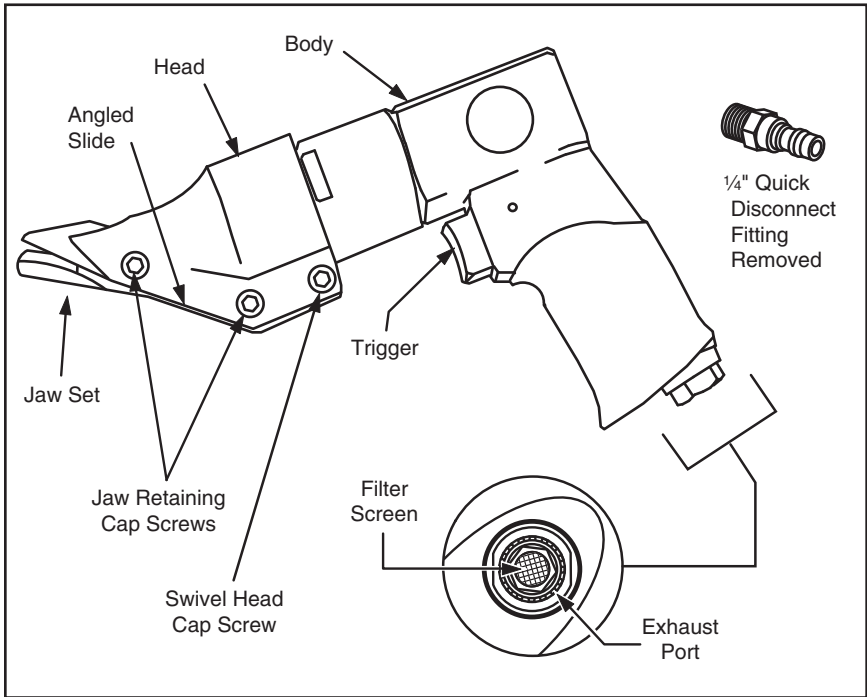

Figure 1. Components and controls.
- If so, loosen the swivel head cap screw (see **Figure 1**, on **Page 5**), rotate the head to the required angle, and retighten the cap screw.
7. Pull the trigger, and in a controlled manner, push the shear into the workpiece to begin cutting. As the cut progresses, keep the angled slide (see **Figure 1**, on **Page 5**) flat against the surface of the sheet metal, so the jaws and sheet metal do not bind.
Manual Lubrication: Every two hours of use, place a few drops of air tool oil in the air inlet fitting and at all pivot points. Do not use motor oil as the additives can corrode the tool seals. Next, connect the tool to the air line and cover the exhaust port (see **Figure 1**, on **Page 5**) with a rag. Position the end of the tool safely away from you, and run the tool for 30 seconds to completely circulate the oil through the tool and into the rag.